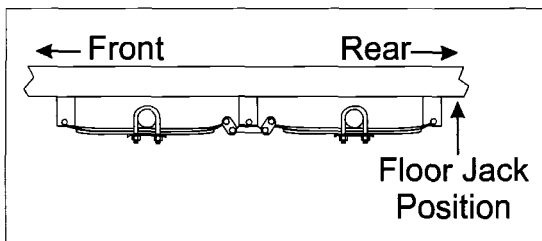

Fig. 2
2. Use a floor jack of sufficient capacity to raise one side of the trailer. Locate the floor jack under the main frame rail right behind the axle plate. Raise the frame just enough to take some of the weight off the wheel (Fig. 2).